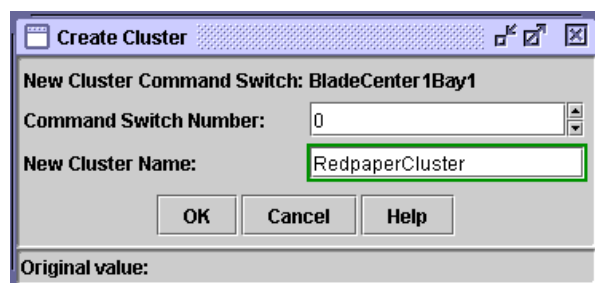

Figure 5-28 Create Cluster window
4. In the Create Cluster window, enter a command switch number. This must be unique from any other command switch numbers that reside in the network (Figure 5-28).